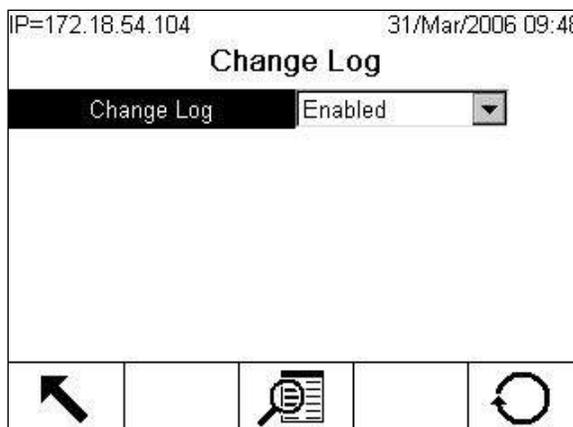

Figure C-29: Change Log Configuration Screen
The Change Log in the IND780 terminal file tracks all intentional changes to system configuration parameters. The Change Log can be enabled or disabled in Setup at **Maintenance > Configure > Change Log**. Figure C-29 shows the Change Log configuration screen.
1. Press the SETUP softkey  and select the **Maintenance > Configure > Change Log** node (see Figure C-29).